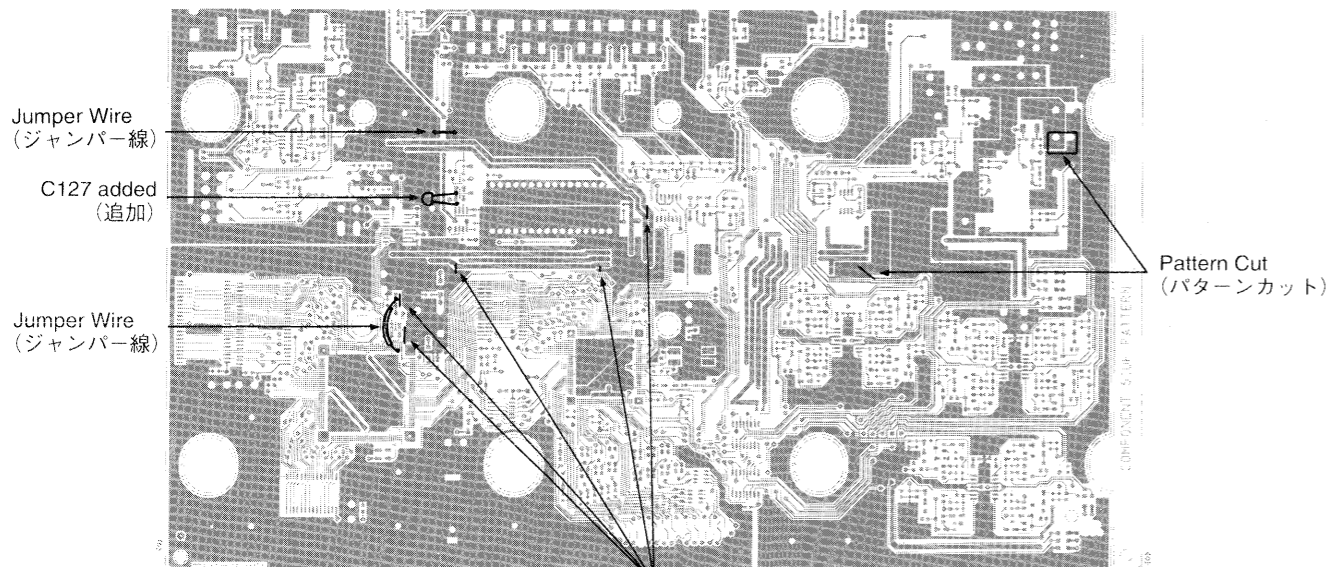

Fig. 1 (図1)
- A wiring pattern was cut. (See Fig.1)
- A jumper wire was added. (See Fig.1)
C127 100pF (See Fig.1)
- パターンカット (図1参照)
- ジャンパー線後付け (図1参照)
C127 100pF (図1参照)